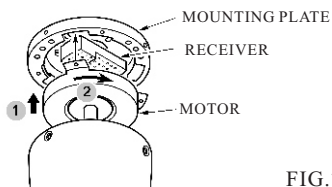

FIG. 7
4. Lift the fan body up and turn the motor into the mounting plate.(see fig.7)